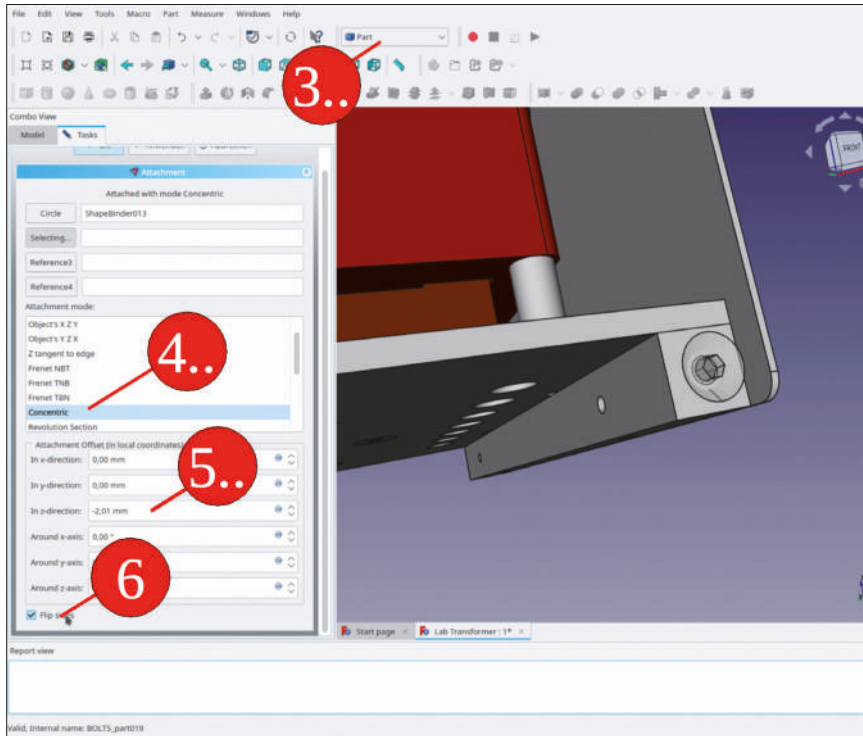

Figure 9-156
16. For the selection of reference 1, switch to the 'Model' tab and select the shape binder 'Bolt Hole Front Face'. Switch back to the 'Tasks' tab. For the attachment mode, select 'Concentric', enter a value of -2.01 mm for the attachment offset Z and check the 'Flip sides' checkbox (Figure 9-156). Close the task window with the 'OK' button.